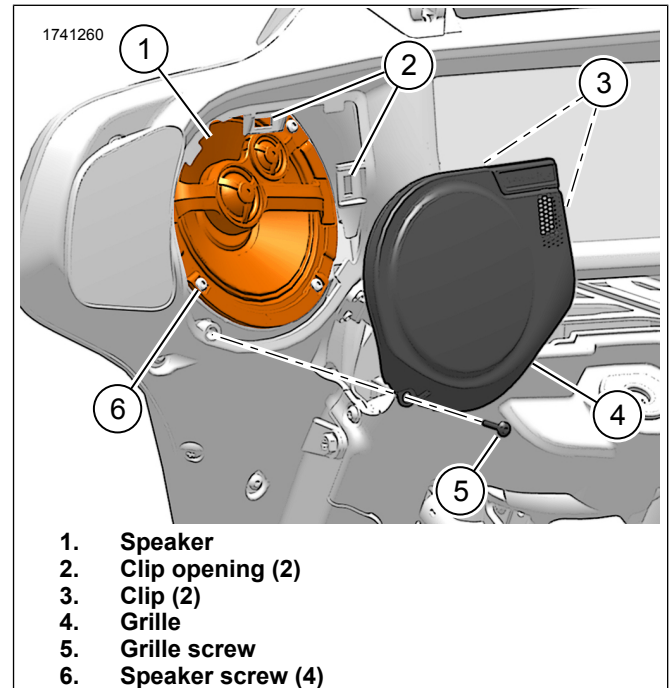
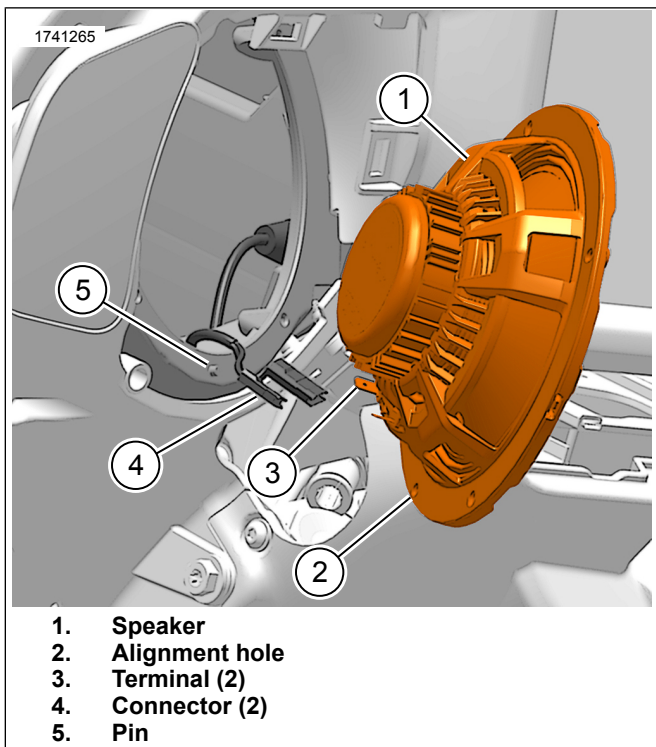

Figure 3. Speaker and Grille (Stage 2 shown, OE similar)
Figure 4. Fairing Speaker Connection
1. Figure 3 Remove Original Equipment (OE) speaker grille.
- a. Remove screw (5) and grille (4).
- b. Using a non-marring tool, pry clips (3) from clip openings (2).
2. Remove speaker screws (6).
3. Figure 4 Remove OE speaker.
- a. Remove speaker (1) from fairing far enough to gain access to connectors (4).
- b. Disconnect connectors (4) from speaker terminals (3).
2. Figure 4 Install Stage I or II speaker.
- a. Connect connectors (4) to speaker terminals (3).
- b. Install speaker (1) into enclosure.
3. Figure 3 Install speaker screws.
- a. Alternately secure screws (6).
- b. Figure 3 Install grille aligning grille clips (3) into clip openings (2).
- c. Install screw (5). Tighten.